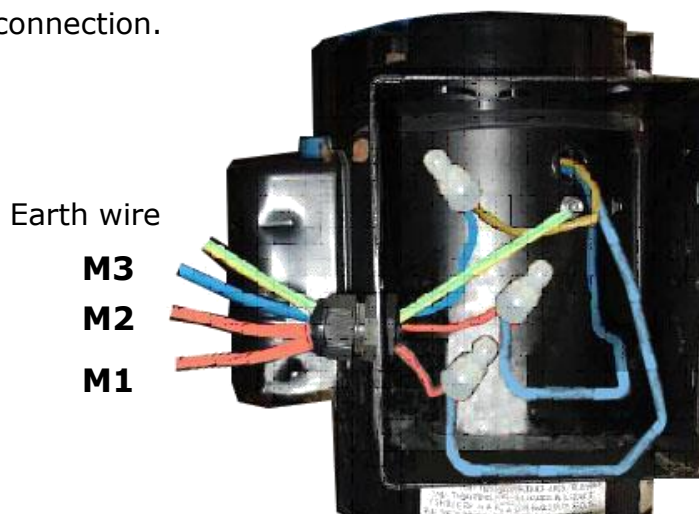

Fig. 36
6.2 380V Wire connection diagram of hydraulic motor (See Fig. 36).